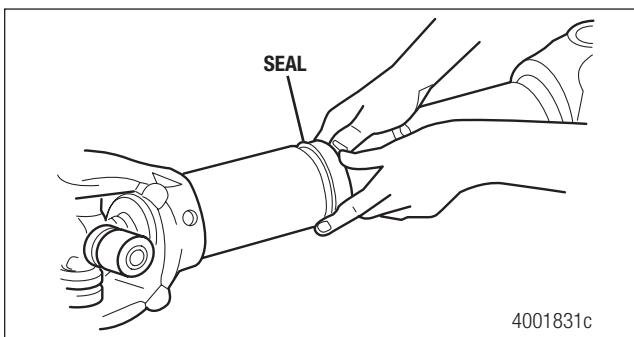

Figure 5.15
8. Snap the seal into the groove. Figure 5.15.